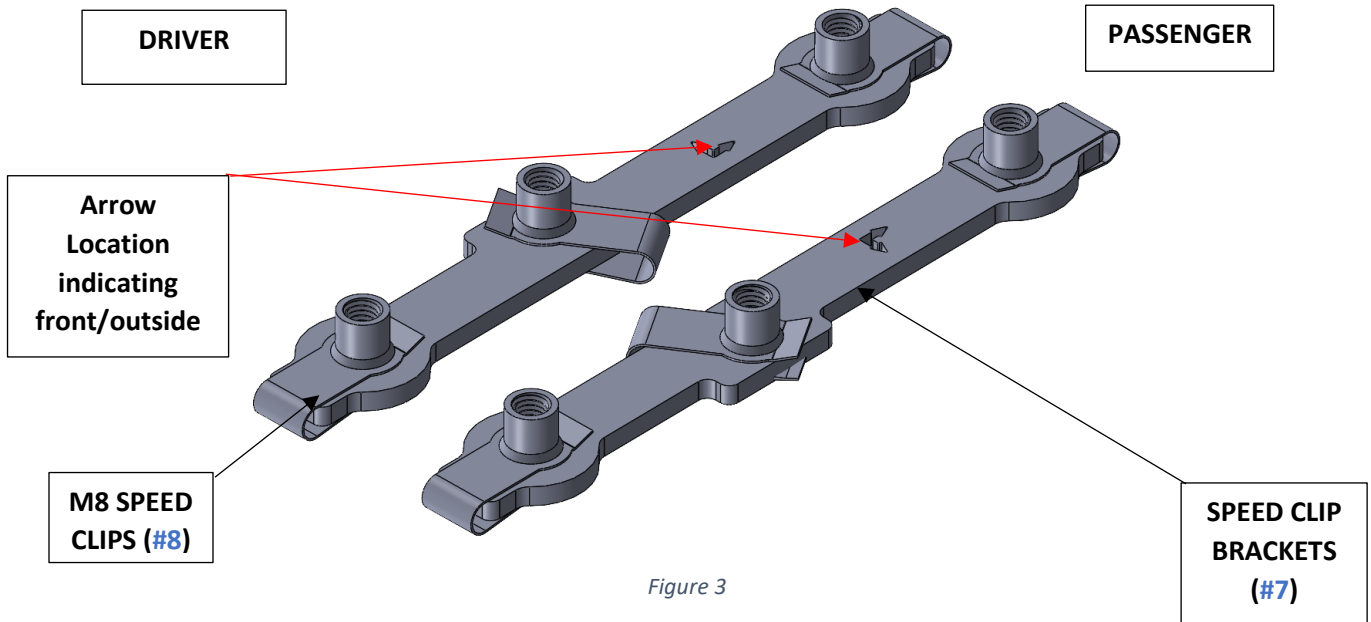

Figure 3
- 4) Collect the two (2) Bronco Speed Clip Brackets (#7) and install the six (6) M8 x 1.25 Speed Clips (#8) as shown in *Figure 3*.
- 5) On the Passenger side behind the front tires on the lower side of the frame there is a slot where the speed clip bracket needs to be installed through. They need to be inserted in the same orientation as shown in *Figure 3*. The locating arrow will be pointing towards the front and the outside of the vehicle. RCI recommends using a small screwdriver to assist in aligning the bracket.